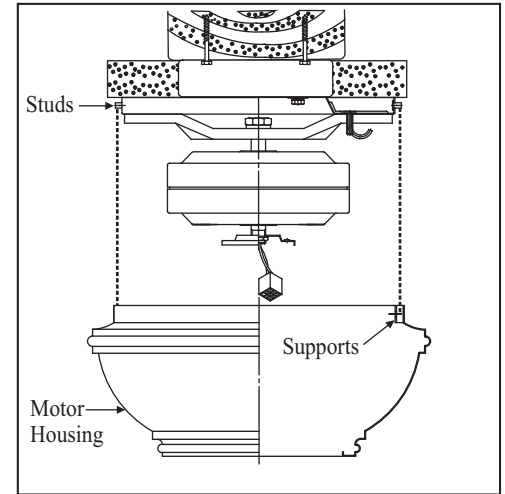

Figure 8
2. Raise the motor housing up against the ceiling mounting bracket, the four supports inside the housing should be placed against the four studs on mounting bracket, twist the housing clockwise until snug (Fig. 8).